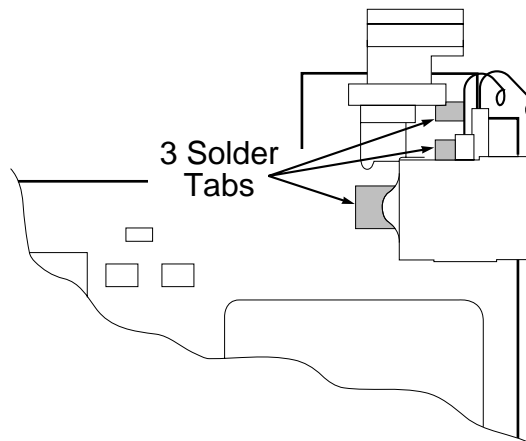

Figure 16 Solder Tabs
2. Refer to Figure 16 and use a small heat-focus head to distribute heat over the area occupied by the three solder tabs until the solder softens.